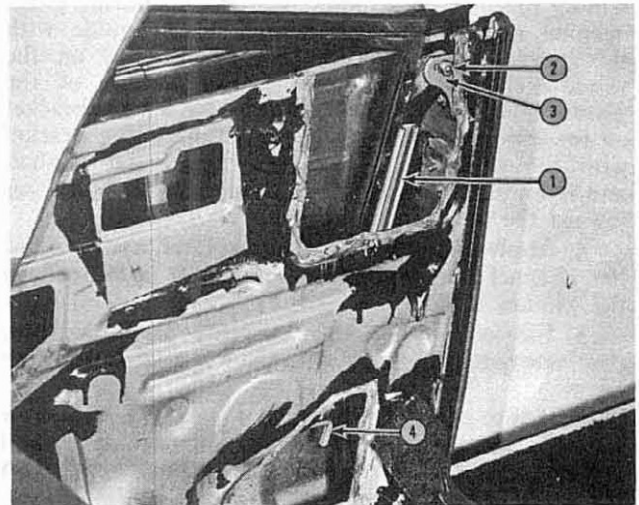
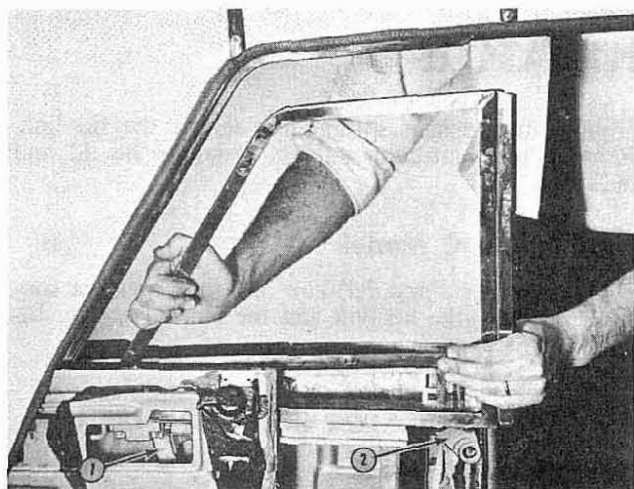

FIG. 89
FIG. 90
3. Remove the 3 window regulator retaining screws (2) from the rear quarter window regulator mounting panel (3).
4. Remove the 7 rear quarter window regulator mounting panel retaining screws (4).
6. Slide the regulator arm from the window lift channel (1, Fig. 89) and remove the regulator assembly from the quarter panel.
7. Remove the window pivot retaining shoulder bolt nut and plain washer (2) and remove the shoulder bolt and wave washer from the pivot mounting bracket (3).
8. Manually lift the window to the Up position and move the window assembly rearward slightly to disengage the rear channel finger guide from the curved window guide (1, Fig.90) and pull the window assembly forward and out through the cutout area of the quarter panel (See Fig.90).
3. Hold the window assembly parallel to the quarter panel opening. Then slide the window assembly through the window regulator mounting panel opening and engage the channel finger guide with the curved guide. The bracket (2, Fig.90) on the window channel is installed to the outside of the pivot mounting bracket (3, Fig.89). Attach the bracket on the window channel to the pivot mounting bracket with the shoulder bolt, wave washer, flat washer, and retaining nut. The head of the shoulder bolt faces toward the outer quarter panel.
To adjust the quarter window fore and aft, loosen the pivot mounting bracket shoulder bolt retaining nut (2, Fig.89) and remove the entire window assembly as required to obtain the proper fit and good seal between the rear edge of the door glass and front edge of quarter window. Tighten the retaining bolt nut securely.